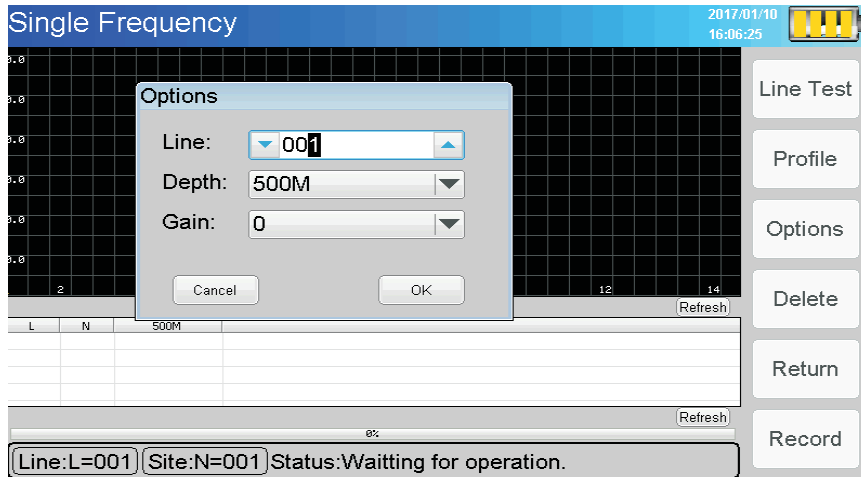

Figure 4 Single frequency setup
(2) Profile: (The function suit for profile survey)
(3) Options:Click the" Options " button ,then pop-up " Options" dialog box (shown below Figure4)